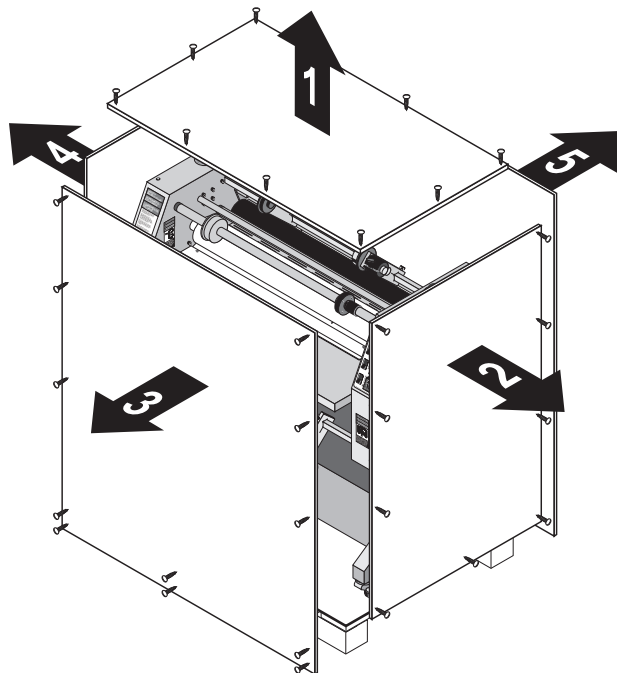

Figure 2-4: Removing the Crate
1. Remove the top of the crate and then the sides in the order shown in Figure 2-4.
A second person must support the side labeled 5 in Figure 2-4. It can fall and damage the laminator.